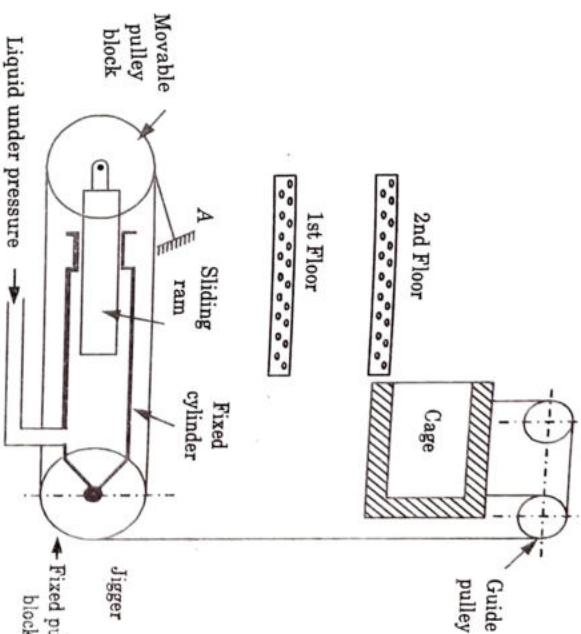

Fig. 3.25.1. Suspended hydraulic lift.
5. A wire rope, one end of which is fixed at A and the other end is taken round all the pulleys of the movable and fixed blocks and finally over the guide pulleys as shown in Fig. 3.25.1.